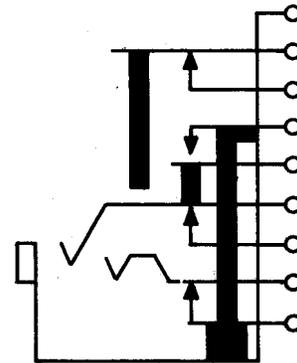

Fig. 22—245A or C Jack
2.22 245A or C: These single-mounted jacks (Fig. 22) are used with 150, 184, 213, 262, 310, 320, 331, 338, and 349 plugs. These jacks are heavily insulated. The solder-type terminals are arranged to accommodate two No. 19B and S gauge wires. These jacks are arranged for use with a 310 or similar-type plug and mounted with the springs in a vertical plane.